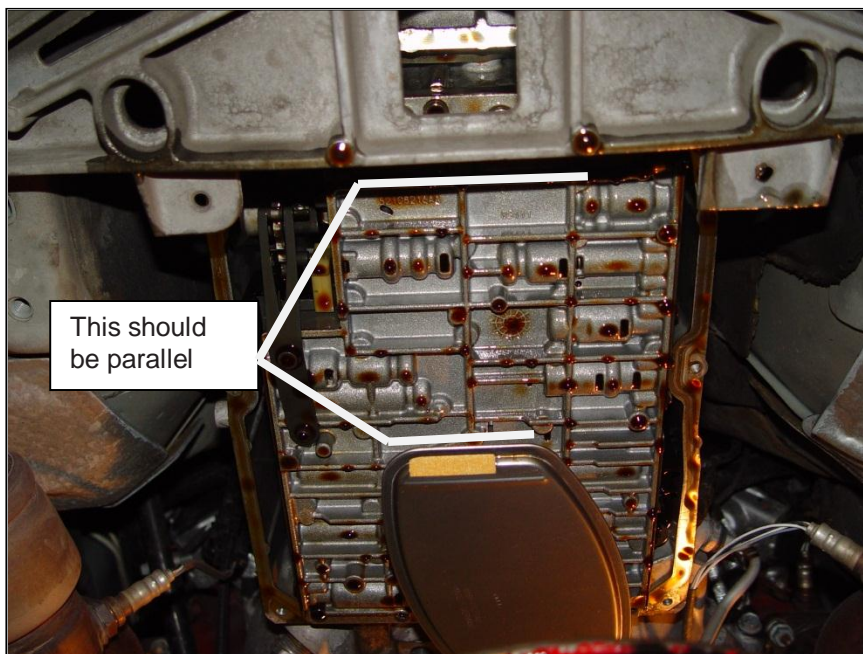

Figure 4
**STEP 9.** Make sure the flat end of the filter is parallel to the back of the transmission (See Figure 4).